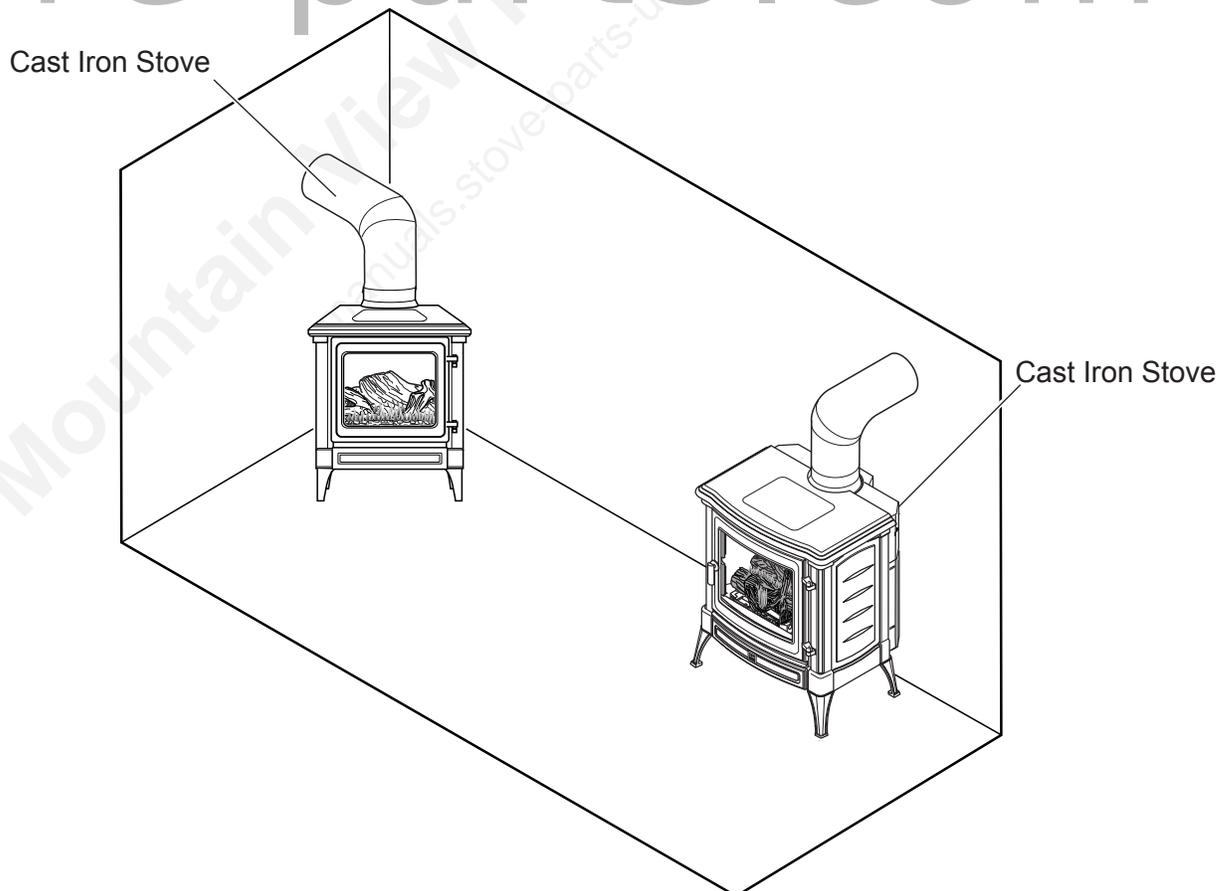

Figure 3 - Example of Typical Installations (see "Clearances," page 8)
- This stove may be installed along a wall, across a corner, or use an exterior chase. See *Figure 3* for suggested locations.